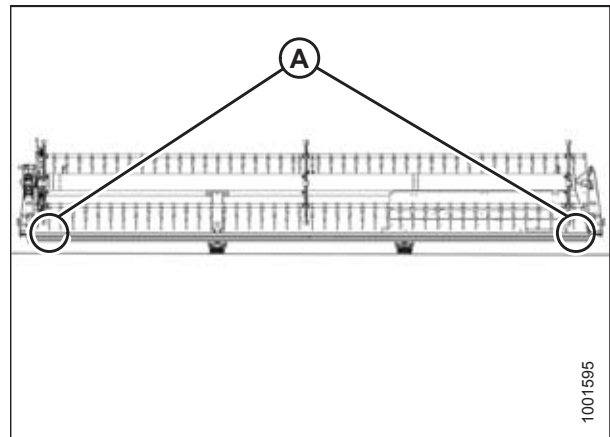

Figure 5.154: Single Reel Measurement Locations (Two Places)
5. Measure the clearance (X) at all possible points of contact (between points [B] and [C] at the ends of each reel [A]) as shown in Figures 5.154, page 198 and 5.155, page 198.